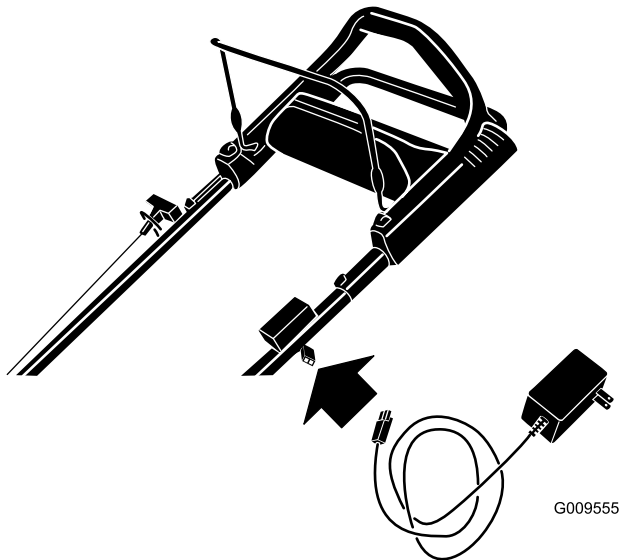

Figure 22
1. Connect the charger to the mower wire harness located below the ignition key (Figure 22).